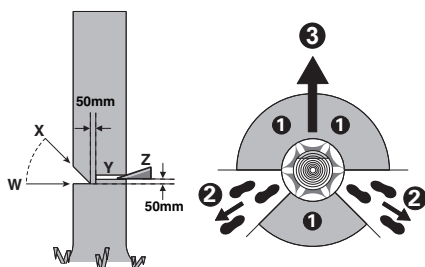

Figure 1
An escape path should be planned and cleared as necessary before cuts are started. The escape path should extend back and diagonally to the rear of the expected line of fall as illustrated in Figure 1.
Make the notch 1/3 the diameter of the tree, perpendicular to the direction of falls as illustrated in Figure 1. Make the lower horizontal notching cut (W) first. This will help to avoid pinching either the saw chain or the guide bar when the second notch (X) is being made.
Make the felling back cut (Y) at least 50 mm higher than the horizontal notching cut as illustrated in Figure 1. Keep the felling back cut parallel to the horizontal notching cut. Make the felling back cut so enough wood is left to act as a hinge. The hinge wood keeps the tree from twisting and falling in the wrong direction. Do not cut through the hinge.
As the felling gets close to the hinge, the tree should begin to fall. If there is any chance that the tree may not fall in desired direction or it may rock back and bind the saw chain, stop cutting before the felling back cut is complete and use wedges of wood, plastic or aluminium (Z) to open the cut and drop the tree along the desired line of fall (③). When the tree begins to fall remove the Chainsaw from the cut, stop the motor, put the Chainsaw down, then use the retreat path planned (②). Be alert for overhead limbs falling and watch your footing. (See Figure 1)